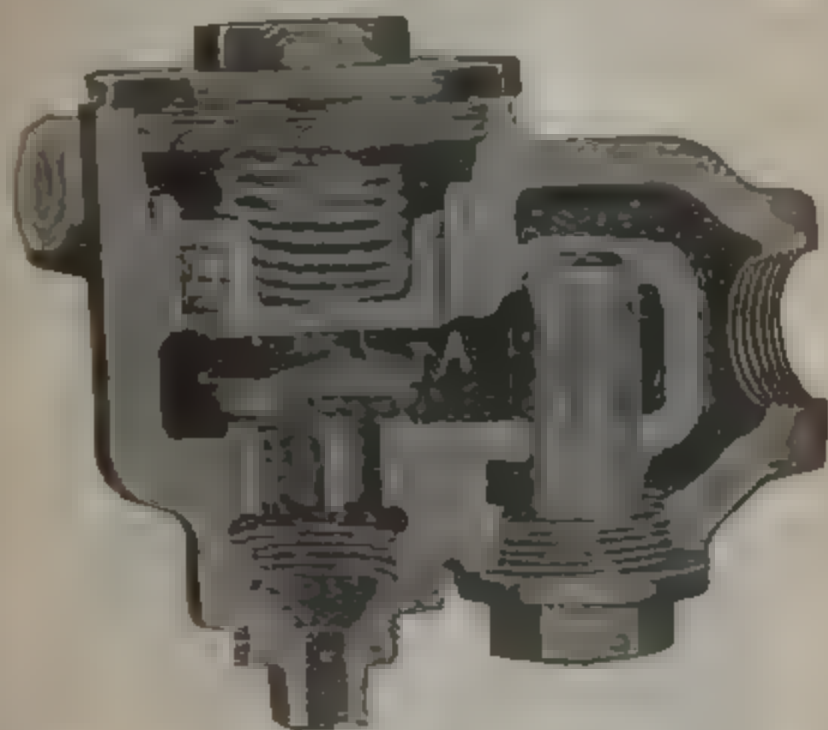
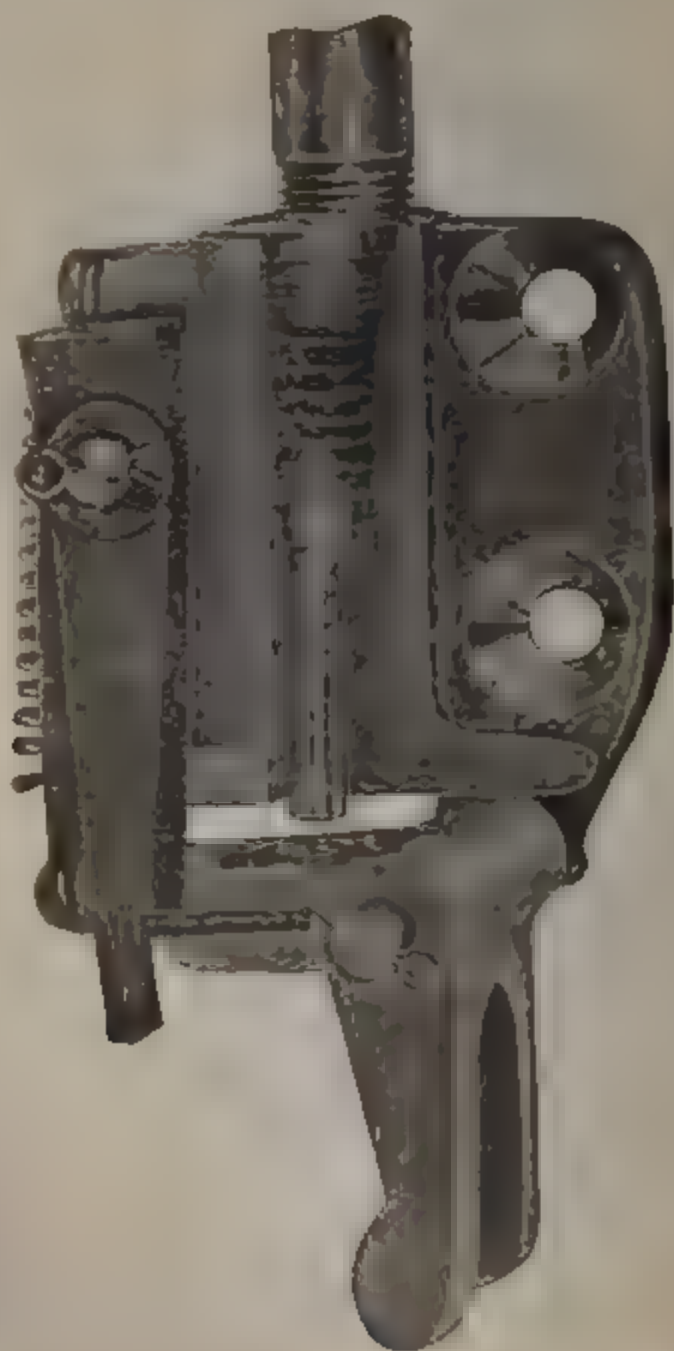

Fig. 500 Main Valve Emergency Air Brake Attachment.
Fig. 501. Pilot Valve Emergency Air Brake Attachment.
42. THE EMERGENCY AIR BRAKE ATTACHMENT for master controller (Fig. 493) consists of a main valve outside of the controller (Fig. 500), and a small pilot valve (Fig. 501) within it. The main valve